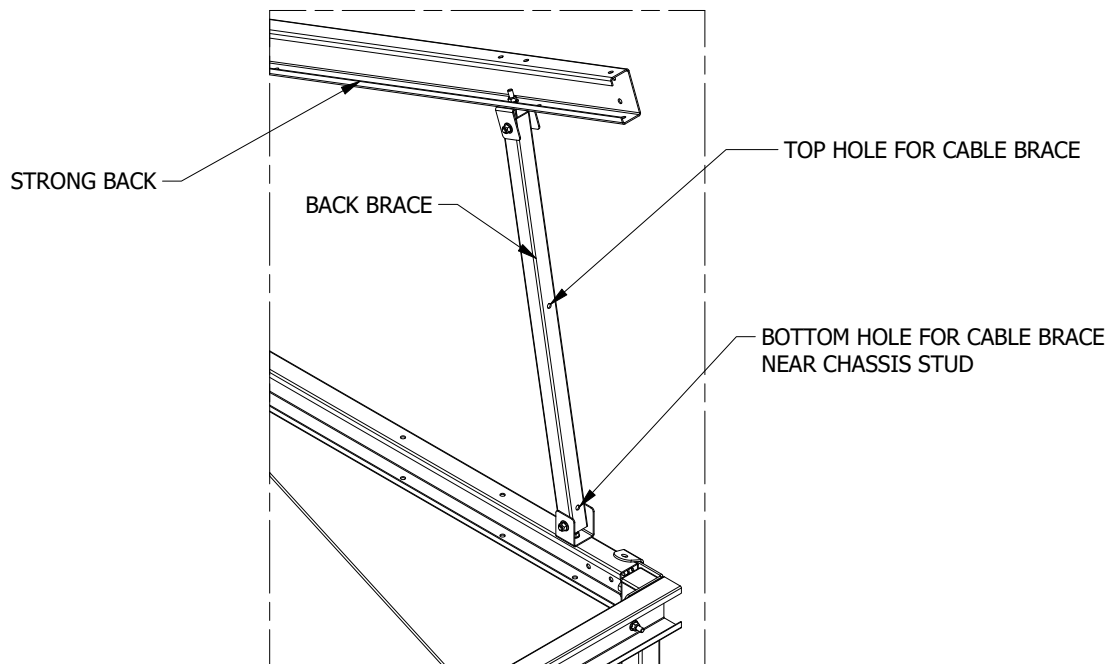

Figure 13: Back Brace Orientation for Cable Brace Attachment.
6. Lift the rear end of the Strong Back and rotate the Back Brace upwards to meet with the Back Brace Bracket on the underside of the Strong Back. Make sure the Back Brace is oriented with the lower hole near the Chassis Stud for proper cable brace assembly. Refer to Figure 13 on next page.